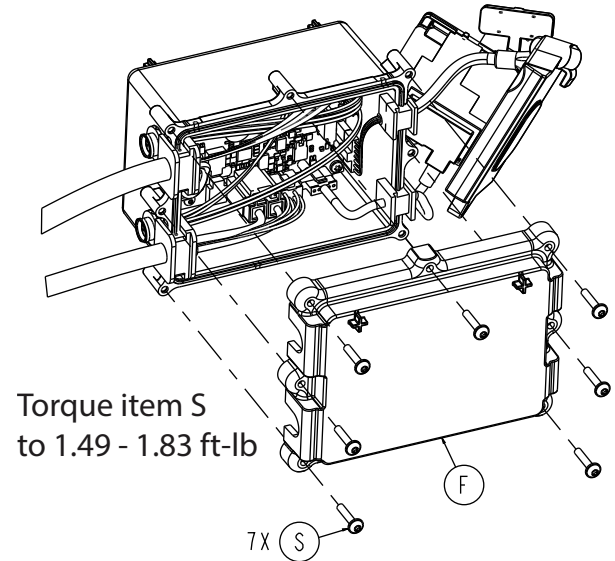

Figure 45 – Remove the HBC top cover screws
- Using a T20 Torx driver, remove the seven round washer head tapping screws (S) that secure the top cover (F) to the HBC enclosure assembly (Figure 45). Remove and save the top cover. Save the screws.